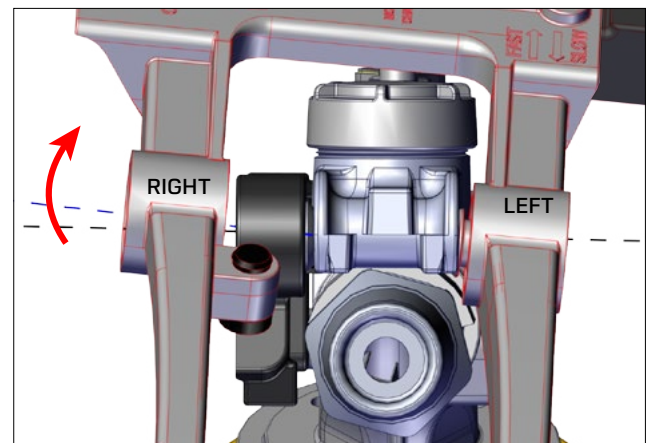

Fig. 4.
- F. Rotate right drive arm bearing hub up and remove drive arm from Big Gun (see Fig. 4.)